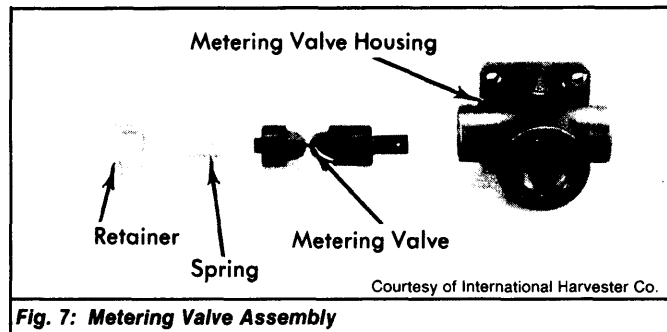

Fig. 7: Metering Valve Assembly
3) Remove metering valve housing, metering jet and gasket. Discard gasket. Disassemble metering valve assembly. See Fig. 7. Remove idle air/fuel (RPM) mixture adjusting screw, located just below metering valve housing.